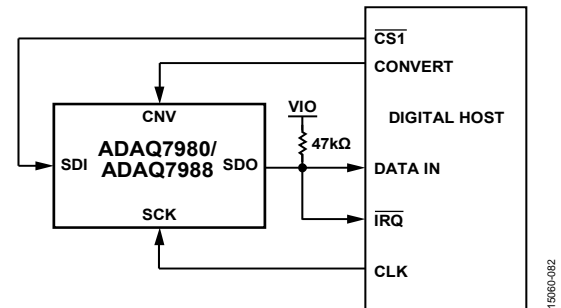
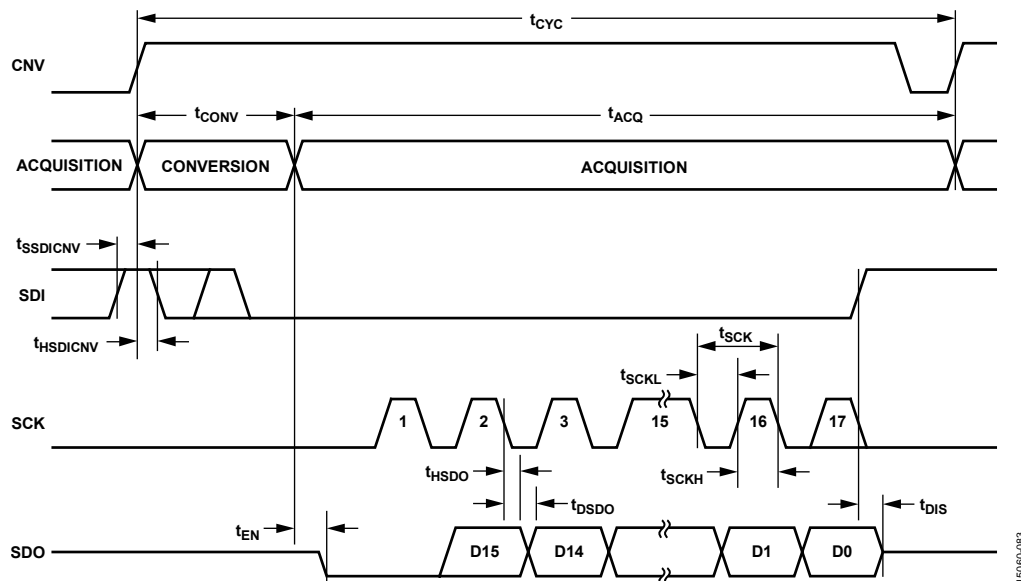

Figure 77. 4-Wire  $\overline{\text{CS}}$  Mode with the Busy Indicator Connection Diagram
Figure 78. 4-Wire  $\overline{\text{CS}}$  Mode with the Busy Indicator Serial Interface Timing
- In  $\overline{\text{CS}}$  mode if CNV or SDI is low when the ADC conversion ends (see Figure 74 and Figure 78).
Figure 77 shows the connection diagram, and Figure 78 shows the corresponding timing.